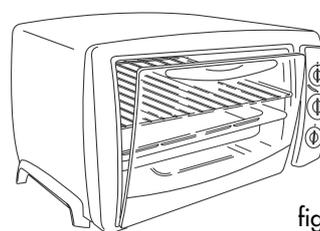

fig. 4
**FOR TOASTING BREAD ONLY:** preheat the oven for 2-3 minutes with the door ajar (as shown in the figure 4)